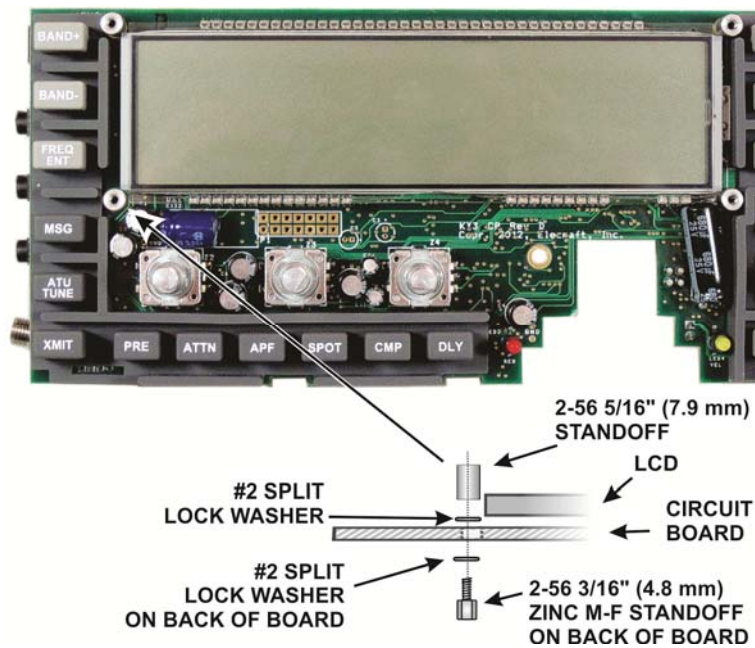

Figure 10. Installing CP Board Standoff Hardware - Part 2.
- ☐ Install the standoff on the CP board as shown in Figure 10. Note that a M-F standoff is used instead of a screw on the back of the board.